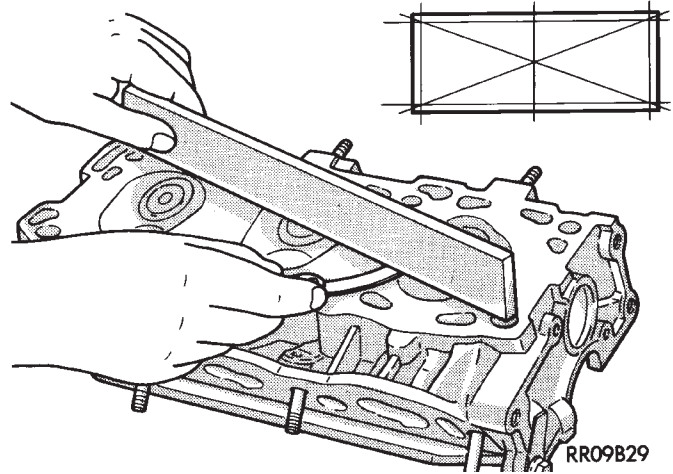

Fig. 72 Check Cylinder Head
(1) Before cleaning, check for leaks, damage and cracks.
(2) Clean cylinder head and oil passages.
(3) Check cylinder head for flatness (Fig. 72).
(4) Inspect all surfaces with a straightedge if there is any reason to suspect leakage. If out of flatness exceeds 0.019 mm (0.00075 in.) times the span length in inches in any direction, either replace head or lightly machine the head surface. As an example, if a 12 inch span is 0.1 mm (.004 in.) out of flat, allowable is $12 \times .019 \text{ mm}$ (.00075 in.) equals .22 mm (.009 in.) This amount of out of flat is acceptable.